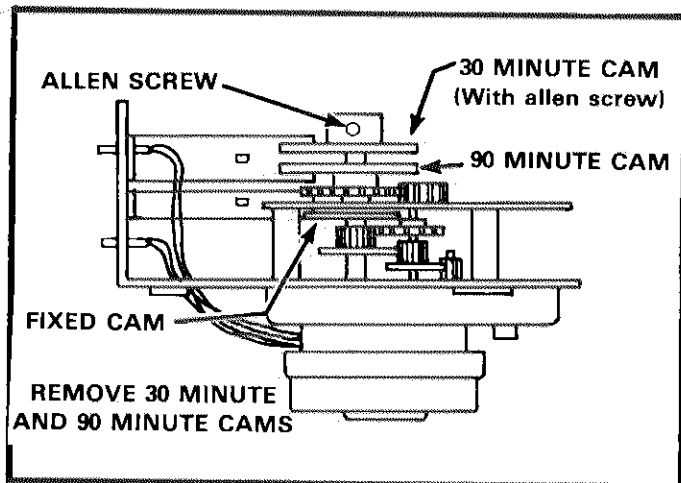

FIGURE 6
- 4 - Loosen allen screw and remove BOTH cams as shown in figure 6.